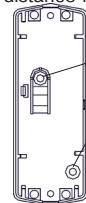

Figure 3 – The Detector Base
9.1 Prepare the openings for the detector base fastening. Mark out its fastenings using the installation Detector base (Figure 3) with the PCB removed.